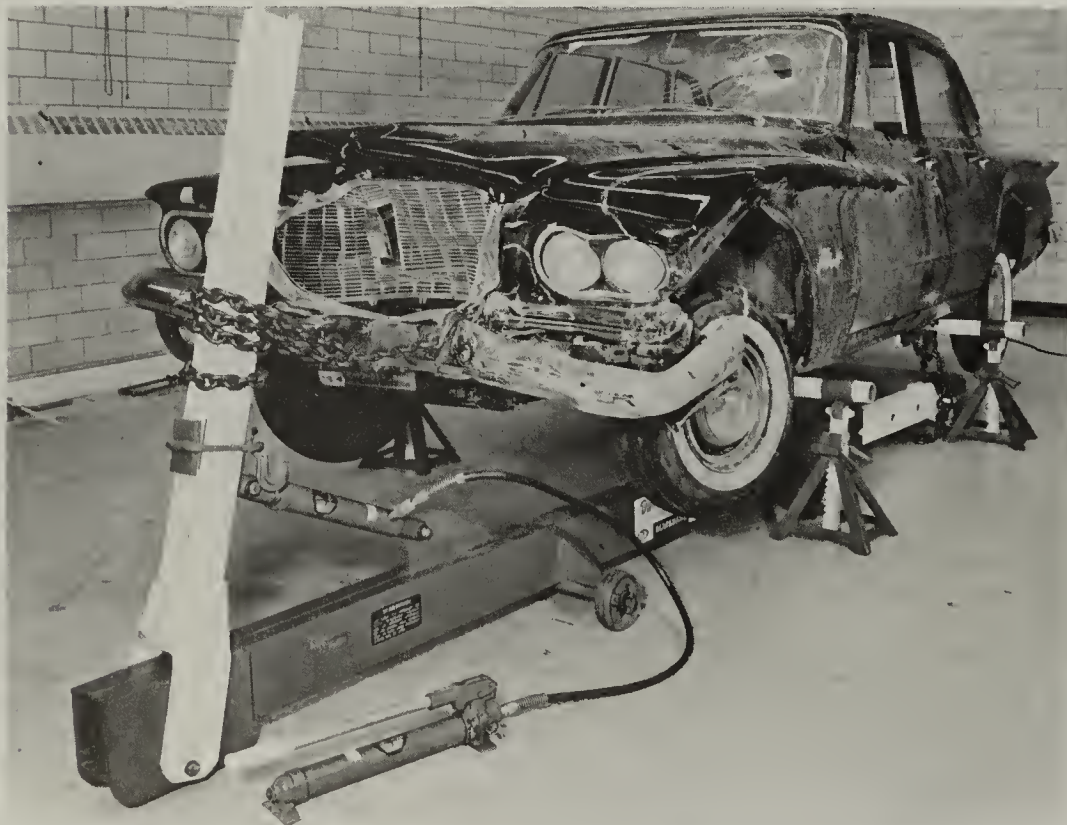

Fig. 8-13. Using portable equipment to repair front end damage. Note safety stands. (Blackhawk Collision Repair Div., Applied Power, Inc.)
2. Portable (dozer) type. Vehicle is placed on safety stands, and equipment is moved to desired position. See Fig. 8-13.
When correcting damage with portable equipment, attach the equipment to the wrecked car so that the car frame or chassis members will serve as a base against which the force of the hydraulic jack is exerted. Fig. 8-13 shows a car with front end damage. The car is resting on jacks and the beam of the dozer is chained to a cross bar under the car. The pull with the chain is forward with a slight lift.